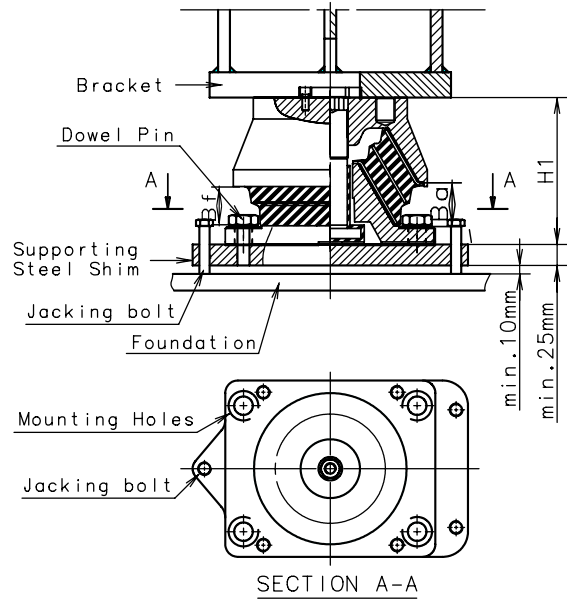

Fig. 2
1. Fix the top casting(5) to the bracket of base frame by using 4 bolts.
2. Remove Protection cap and loosen fixing bolt(6), spring washer(5) and top lock ring(4).
4. Install the jacking bolt at tapped hole. At this time, it is recommended that the distance between the foundation and resilient mounting be more than at least 10mm. (Fig. 2)
6. Measure the height of each conical mounting after min.48 hours to ensure that resilient mounting is fully deflected. (Fig.2)